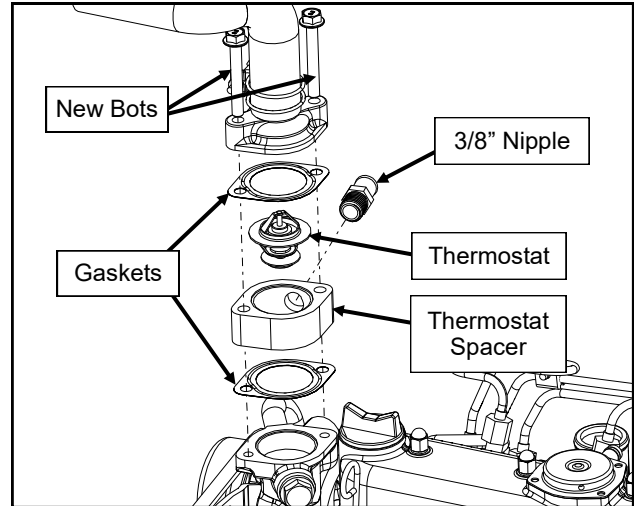

Figure 2.7 (Install Thermostat Spacer)
- 2.7 Pre-install the 3/8" NPT Nipple into the thermostat spacer using Teflon tape. Install the thermostat spacer onto the engine using a new gasket provided, followed by the thermostat, another new gasket, and the thermostat housing with new longer bolts. Ensure that the nipple is pointing towards the front left of the vehicle. See Figure 2.7.